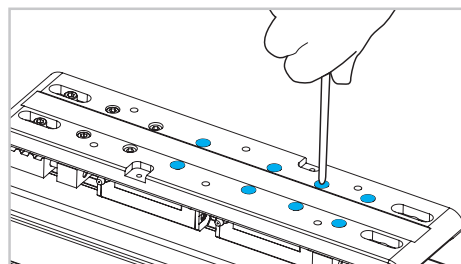

Fig. 9
- 7) Remove the fixing screws on the top of the carriage (Fig. 9).